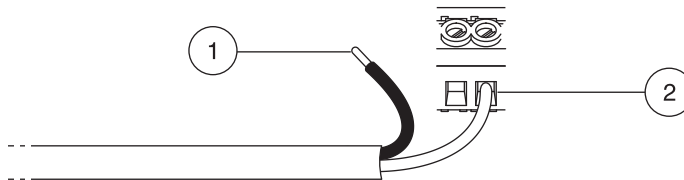

Figure 4 Wiring preparation and insertion
3. Properly prepare each wire (Figure 4).
3. Properly prepare each wire (Figure 4 on page 11).